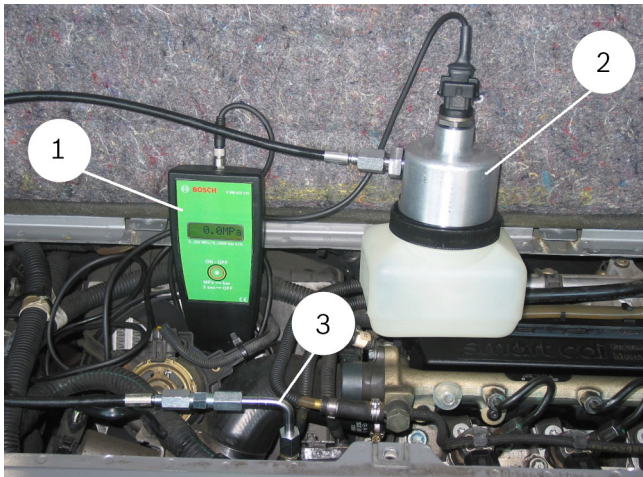

Abb. 13: Example of connecting to a CP 1 common rail high-pressure pump
4. Using the appropriate connection adapter, angle, nut and compression ring (left-hand thread), connect the 60 MPa hose assembly (fig. 13, item 3) to the common rail high-pressure pump.
5. Connect the hose assembly to the pressure sensor module (fig. 13, item 2).
7. Attach the connecting cable to the digital pressure display unit (fig. 13, item 1) and rail pressure sensor of the pressure sensor module (fig. 13, item 2).